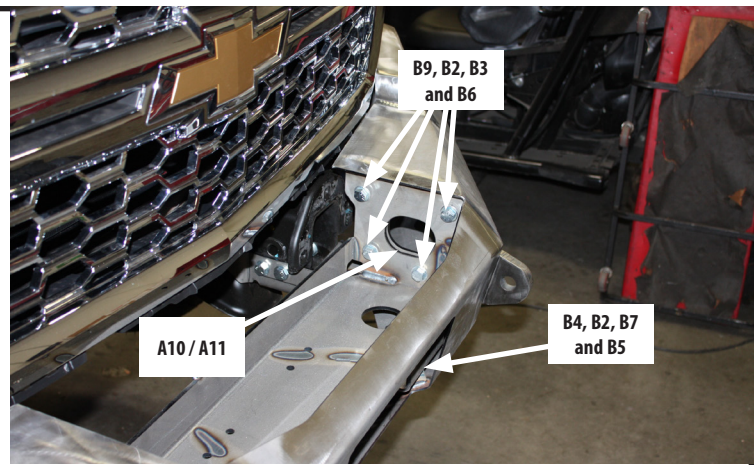

Figure 13
11. Place bumper (A1) on to brackets. Install the bolts (B9) with washers (B2), lock washer (B3) and nut (B6) - along with two 7/16" bolts (B4), four washers (B2), two lock washers (B7) and two nuts (B5) supplied in your hardware kit. See Figure 13. Hand tighten only at this time.